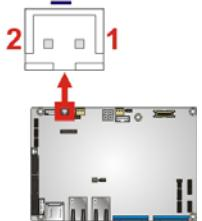

Figure 3-11: Reset Button Connector Location
**CN Location:** See Figure 3-11